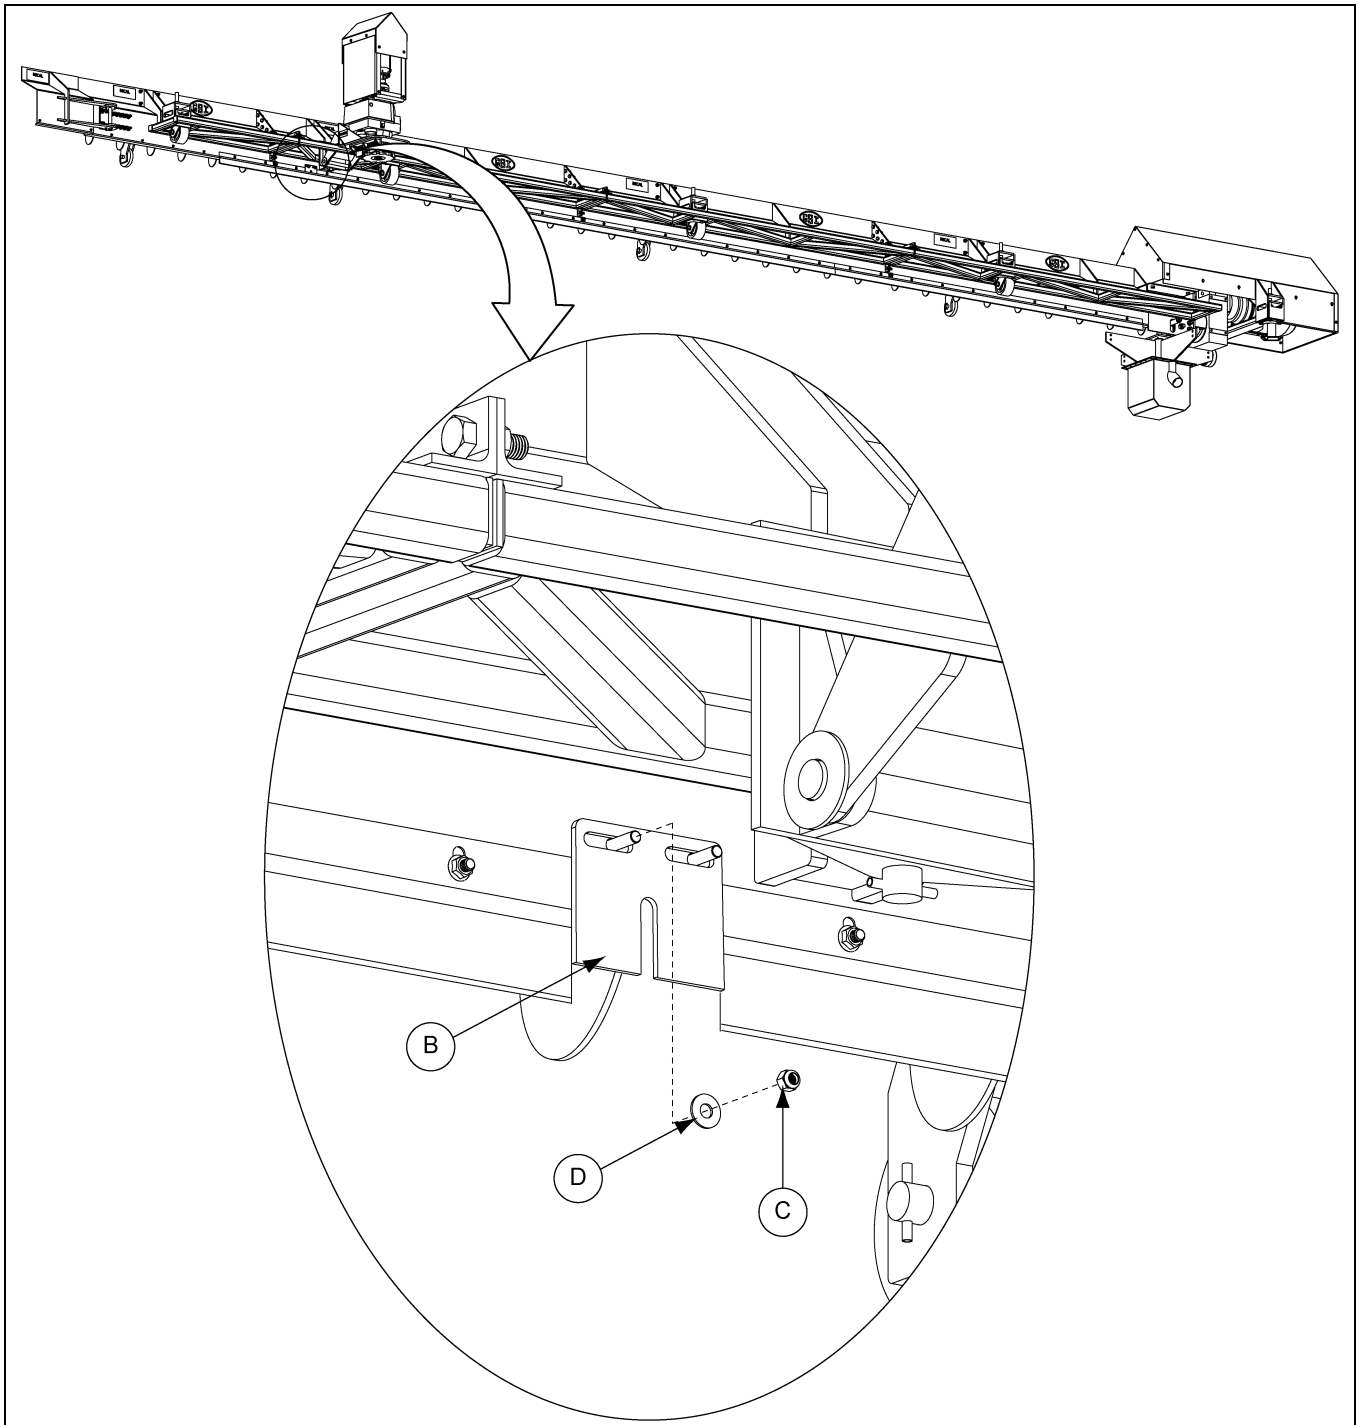

Figure 7P
2. Install the sweep track wiper (B) to the rear side of the sweep shield and secure with flat washers (D) and lock nuts (C). (See Figure 7P.)